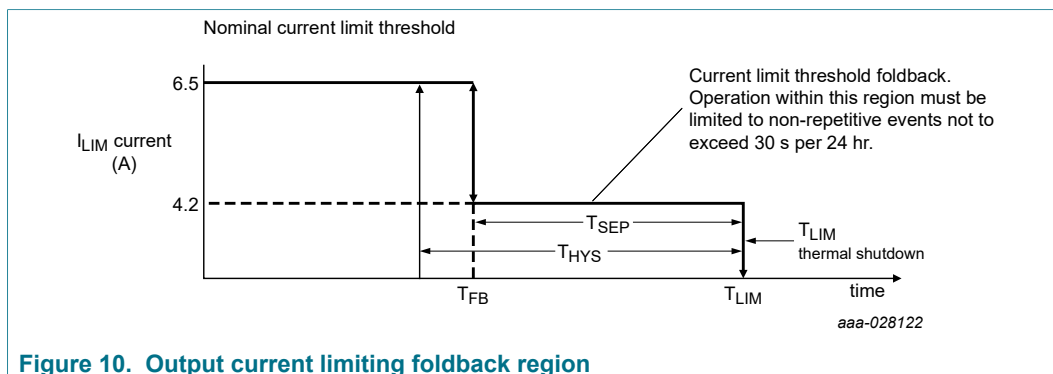

Figure 10. Output current limiting foldback region
- [9] Load currents ramping up to the current regulation threshold become limited at the  $I_{\text{LIM}}$  value (see Figure 8). The short-circuit currents possess a  $di/dt$  that ramps up to the  $I_{\text{SCH}}$  or  $I_{\text{SCL}}$  threshold during the  $I_{\text{LIM}}$  blanking time, registering as a short-circuit event detection and causing the shutdown circuitry to force the output into an immediate 3-state latch-off (see Figure 9). Operation in current limit mode may cause junction temperatures to rise. Junction temperatures above  $\sim 160^\circ\text{C}$  causes the output current limit threshold to "foldback", or decrease, until  $\sim 175^\circ\text{C}$  is reached, after which the  $T_{\text{LIM}}$  thermal latch-off occurs. Permissible operation within this foldback region is limited to non-repetitive transient events of duration not to exceed 30 seconds (see Figure 10).